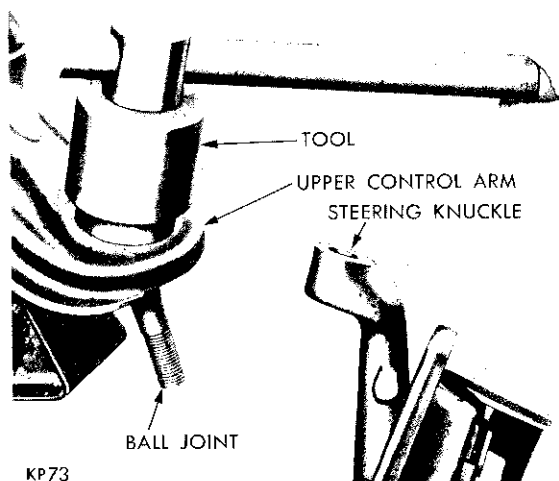

Fig. 13—Removing the Ball Joint (Imperial)
(6) Using Tool C-3560 for Chrysler Models and Tool C-3561 for Imperial Models (Fig. 13) unscrew the ball joint from the upper control arm.